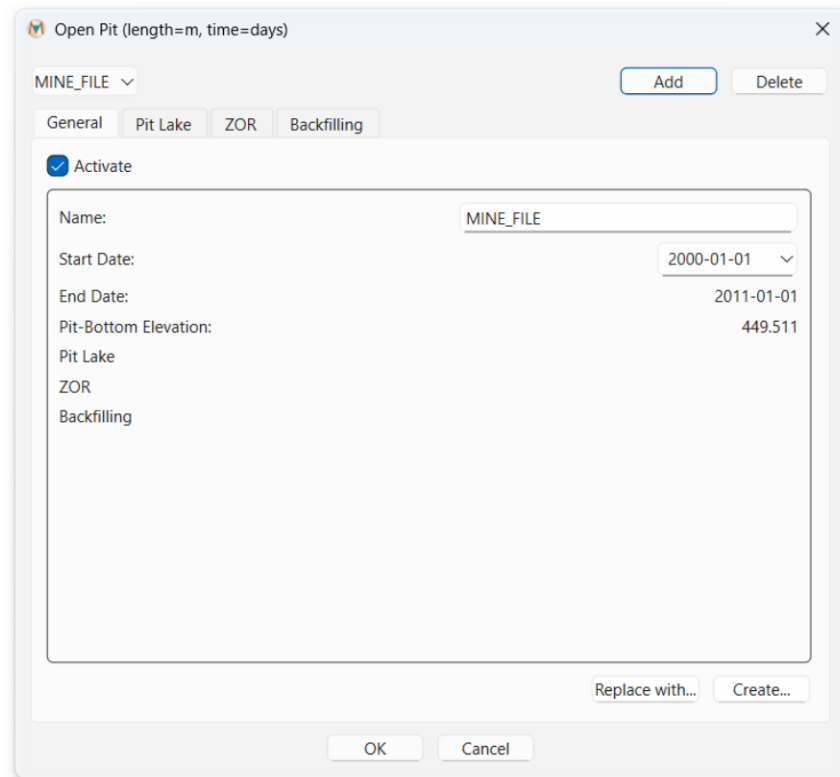

Figure 75. The “Open Pit” dialog box showing the “General” tab.
Click "Add" and browse to the newly created mining file, select it, and click "Open". After importing the mining file, the "General" tab in the "Open Pit" dialog box will show the "Start Date" and "End Date" for mining as well as the "Pit-Bottom Elevation"(Figure 75). This tab will also indicate whether a "Pit Lake", "ZOR", or "Backfilling" will be simulated. Immediately after importing the mining file, these options should indicate that none will be simulated. Steps 5 through 7 describe how to add these features to a model simulation after creating and importing a mine plan. No additional open-pit mines will be simulated in this tutorial, but if required, multiple open-pit mines can be added to the model for simulation by repeating the steps described above for creating and importing mining files.
To create a ZOR for this open-pit simulation, select “Open Pit...” from the “Mining” drop-down menu on the Main Menu banner. The “Open Pit” dialog box (Figure 75) appears. Select the “ZOR” tab to create the ZOR. **MINEDW** offers two options for defining the thickness of the ZOR: (1) As a ratio of the pit depth or (2) by a user-defined thickness (both options are discussed in detail in Section 7.6.4 of the **MINEDW** manual). In this tutorial, the ZOR will be defined as a ratio of the pit depth and divided into two layers. To create the ZOR, check the box next to “ZOR thickness = 1/” and enter “3” as the denominator in the box. In the box next to “# of Additional ZOR Layers”, ensure that the value is “1”. **MINEDW** will add a default layer to the one layer defined by the user for a total of two layers within the ZOR. Only the thickness of the first ZOR layer needs to be defined because the remainder of the ZOR will automatically be assigned to the default ZOR layer created by **MINEDW**. The thickness of each layer is defined as a percentage of the total ZOR thickness. In this tutorial, both ZOR layers will be equal in thickness (i.e., each layer will be 50% of the ZOR) (see Figure 76).
When mine operations and dewatering activities cease, a pit lake may form if the pit-bottom elevation is below the recovering water-table elevation. To simulate the pit-lake formation in **MINEDW**, select "Open Pit" from the "Mining" drop-down menu. In the "Open Pit" dialog box, ensure the "MINE_FILE" plan is showing in the drop-down box in the upper left-hand corner and then select the "Pit Lake" tab (Figure 75). Enter a date in the "Start Date:" box for the start of the pit-lake formation. Next, enter a value for "Initial Lake Elevation". This value must be equal to or greater than the ultimate pit-bottom elevation. In this tutorial, the open-pit "Initial Lake Elevation" should be the minimum pit-bottom elevation of 450 m (the bottom of the pit at the end of mining, (Figure 75). If evaporation from the pit-lake surface is to be considered, enter the evaporation rate value in the "Evaporation (mm/yr)" box. For this model simulation, evaporation is assigned a rate of 1,200 millimeters per year (mm/yr). Enter the number of stages to use to calculate the pit-lake volume in the "# of Stages" box. For this example, 15 stages (Figure 79) are used. Increasing the number of stages will give a more accurate estimation of inflow to the open pit but may cause convergence problems in the model simulation. As a rule of thumb, start with stages that are approximately 50 m in depth; if greater accuracy is required, increase the number of stages. Next, check the box next to "Activate" and click "OK" at the bottom of the dialog box to apply the changes to the model and exit the "Open Pit" dialog box.